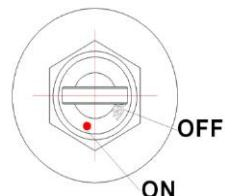
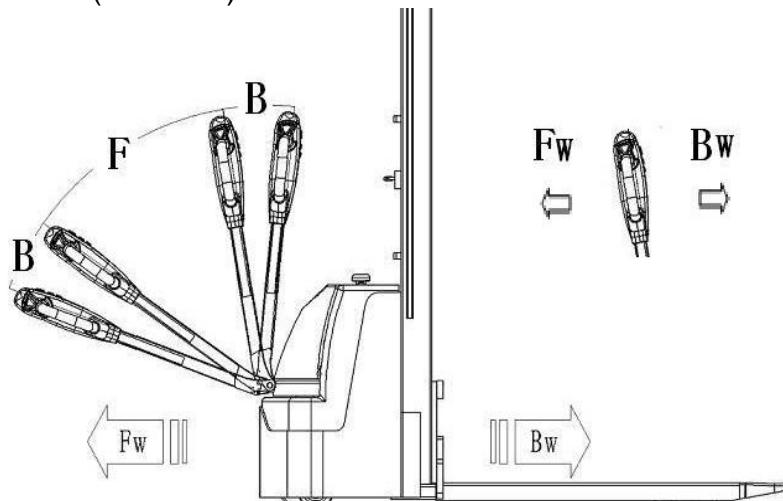

Fig.8: Key switch
Fig.11: Operating direction
After starting the truck by turning the inserted key to the "ON"- position (fig. 8); and eventually by pulling the emergency button carefully, move the tiller to the operating zone ('F', fig. 11).
Turn the accelerator button (11) to the desired direction forward 'Fw.' Or backwards 'Bw.' (fig. 11).